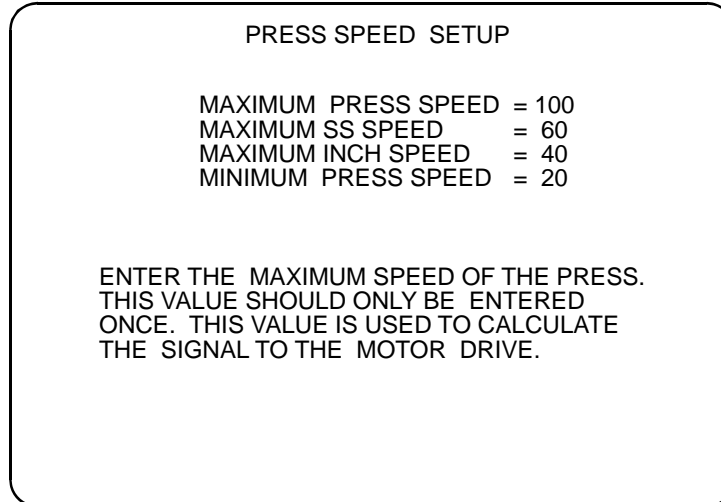

Figure 4-2. Press Speed Setup
5. The next screen will be **PRESS SPEED SETUP** (Figure 4-2)